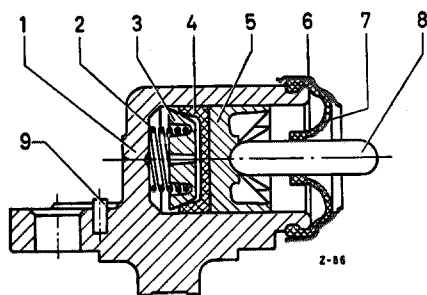

Fig. 42—7/1
2. Remove the actuating pin (8), the metal boot (6), and the rubber boot (7) (Fig. 42—7/1).